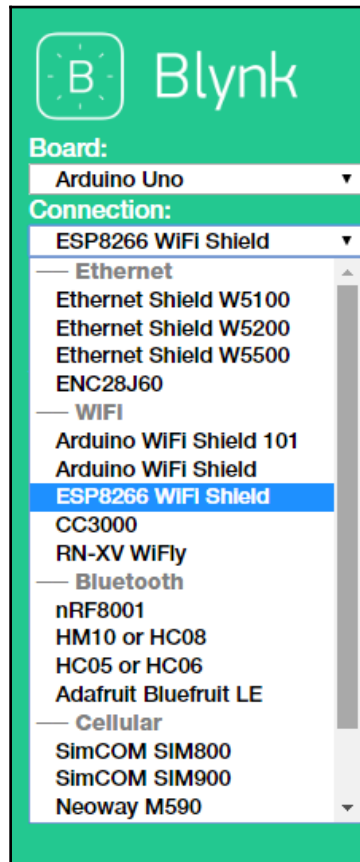

Figure 2.30: Selecting the connection type
3. Choose **ESP8266 WiFi Shield** from the **Connection** drop-down list if not already selected (Figure 2.30):